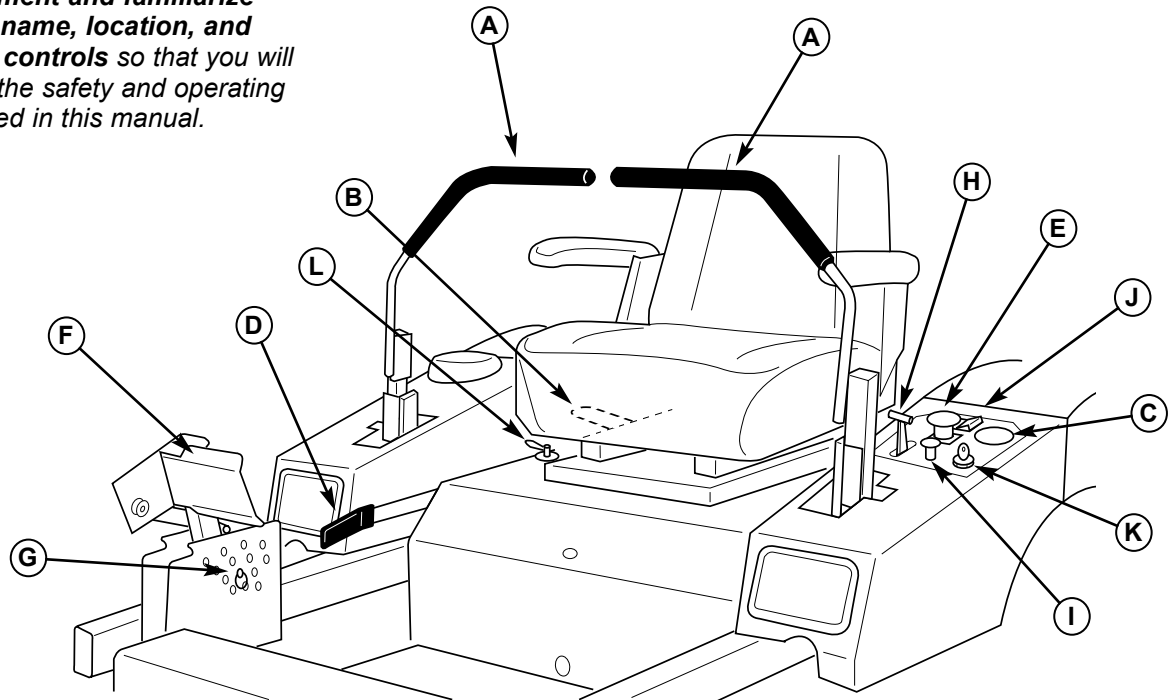

Figure 1. Control Locations
2. **NOTE: A warm engine may not require choking.** Set the engine throttle control (H, Figure 1) to FAST throttle position. Then fully close the choke (I, Figure 1) by pulling the knob OUT fully.
3. Insert the key into the ignition switch (K, Figure 1) and turn it to START.
1. Returning the ground speed control levers (A, Figure 1) to the middle position will stop tractor movement. Pivot the levers outward and lock them in NEUTRAL.
2. Disengage the PTO by pushing down on the PTO switch (E, Figure 1).
3. Engage the parking brake by pulling the handle (D, Figure 1) up until it locks into position.
4. Move the throttle control (H, Figure 1) to mid-throttle position and turn the ignition key to OFF. Remove the key.
5. Engage the PTO by pulling up on the PTO switch (E, Figure 1).